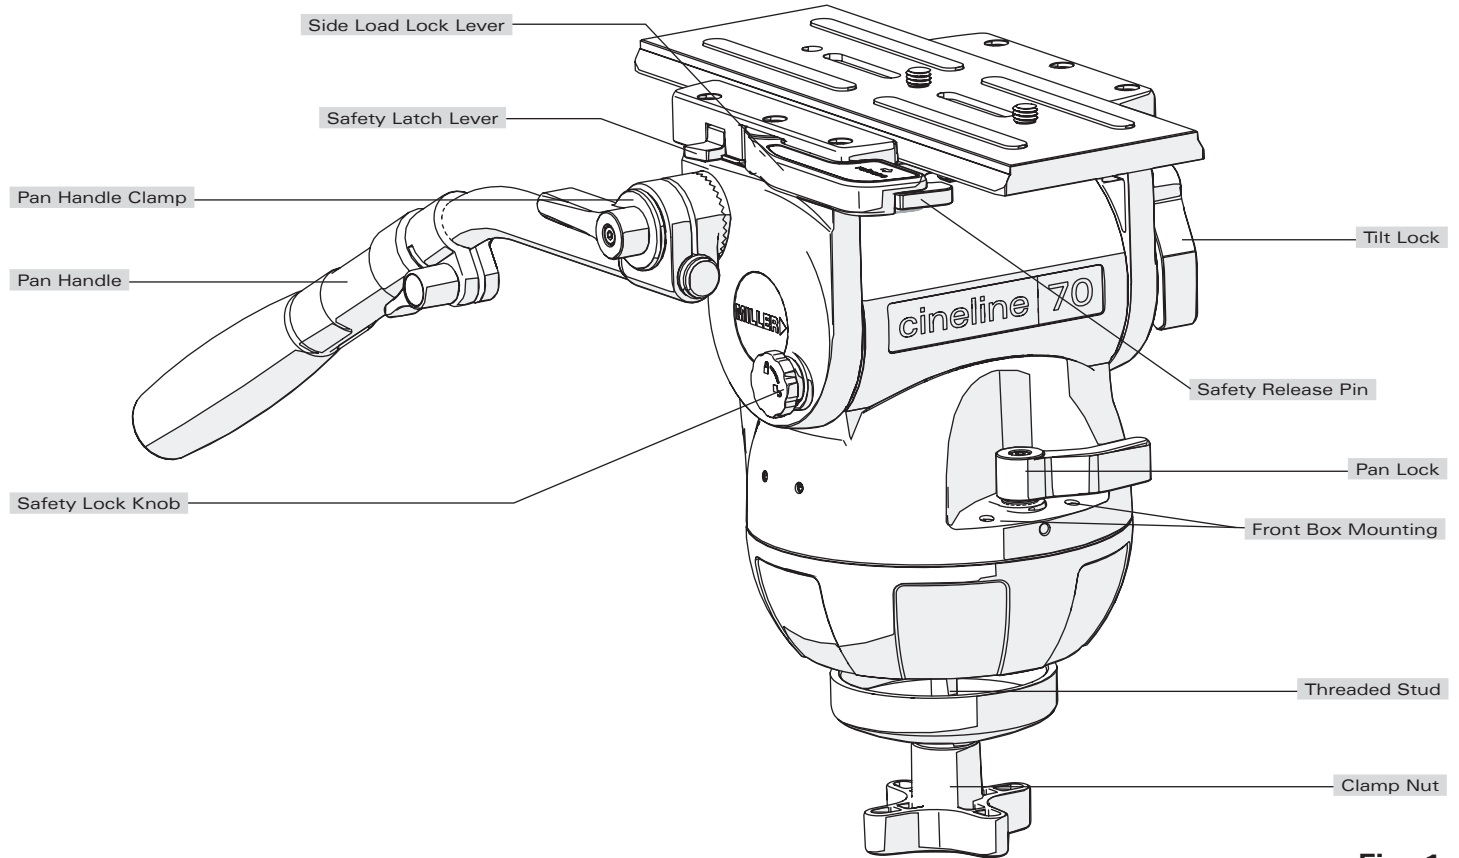

Fig. 1
- 1.1 Loosen the PAN HANDLE CLAMP fully then rotate the PAN HANDLE until it is approximately perpendicular to the THREADED STUD (fig. 1) and tighten the PAN HANDLE CLAMP - avoid contact wear between the serrations on the Fluid Head and the PAN HANDLE CLAMP, if this occurs then unwind the PAN HANDLE CLAMP further.
- 1.5 Set the initial control settings as follows – see Figure 1 & 2: